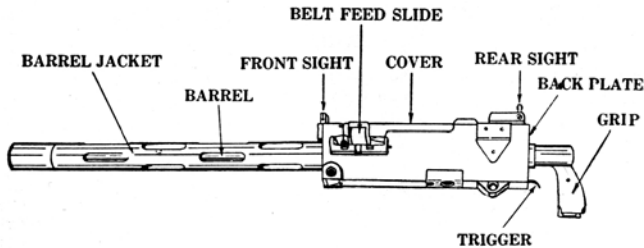

FIGURE 1.—Browning machine gun, M1919A4
■1. PRINCIPLE OF OPERATION. — The machine gun, caliber .30, M1919A4, is recoil operated, belt fed, and air cooled. In recoil operation the rearward force of the expanding powder gas (kick) furnishes the operating energy. The moving parts, while locked together at the moment of the explosion, are left free within the receiver to be forced to the rear by the recoil. This movement is controlled by means of various springs, cams, and levers, and is utilized to perform the necessary mechanical operations of unlocking the breech, extraction and ejection of the empty case, and feeding in of the new round, as well as cocking, locking, and firing the mechanism. (See fig. 1.) The receiver mechanism is for all practical purposes the receiver of the Browning machine gun, M1917.